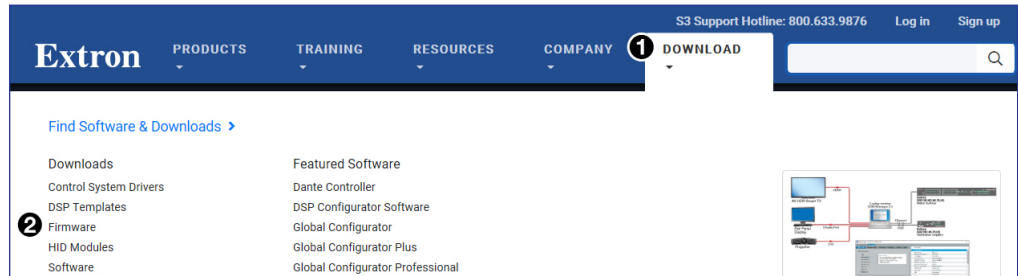

Figure 17. Firmware Download Center
1. On the **Extron website**, mouse over the **Download** tab (figure 17, ❶).